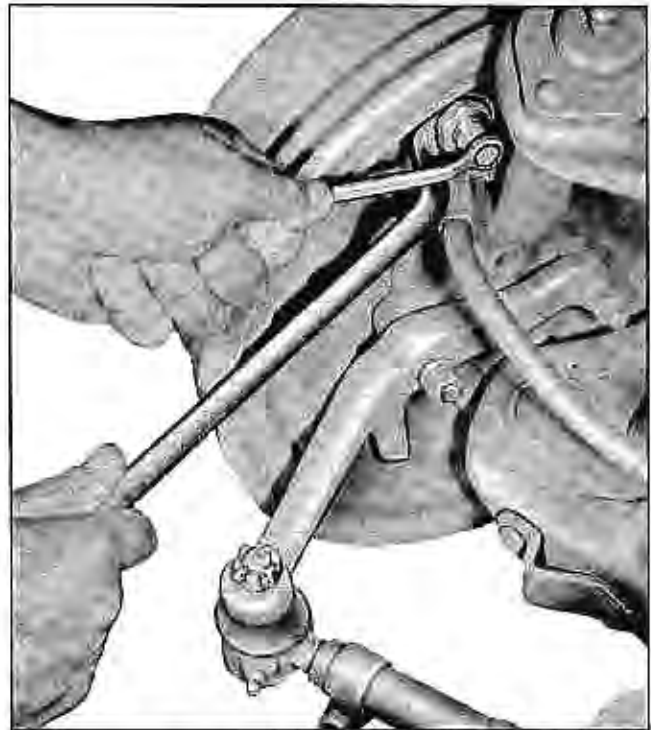

Fig. 5-9 Adjusting Anchor Pin
8. Change clearance at anchor pin end of lining by rotating anchor pin (Fig. 5-9). Brakes having fixed anchors require replacement of any parts preventing proper clearances.